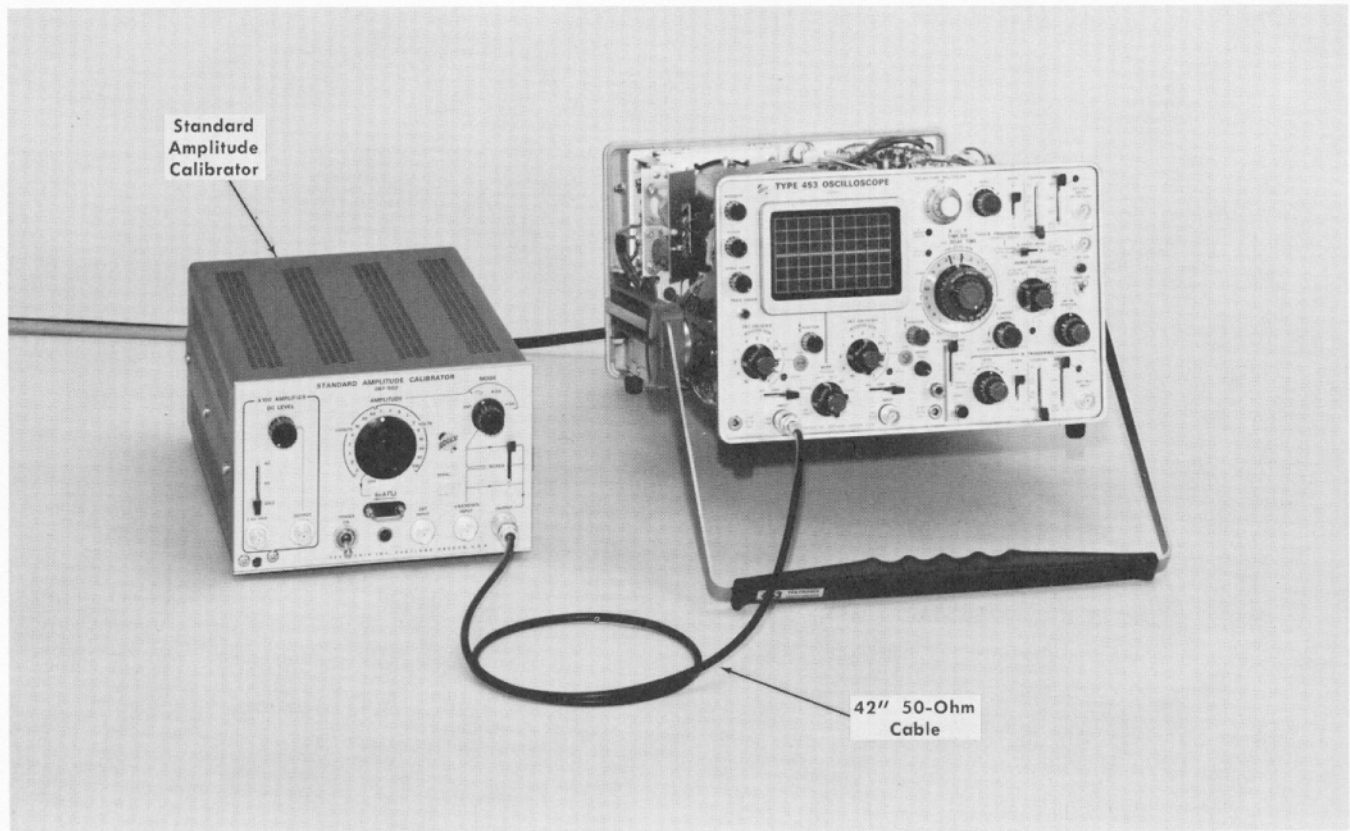

Fig. 6-54. Initial test equipment setup for steps 55 through 59.
- a. Test setup is shown in Fig. 6-54.